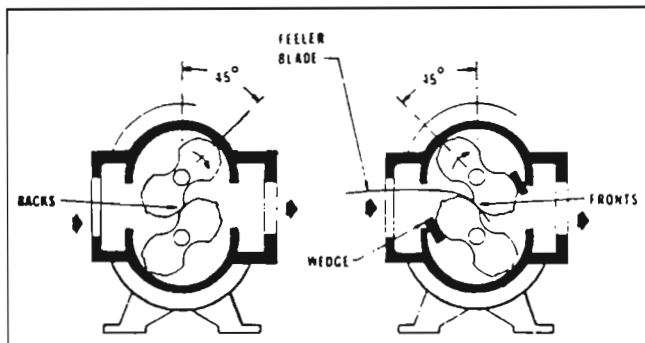

Figure 5 — Impeller Timing Viewed From Gear End
Item Numbers and their word descriptions from Figures 5 & 6. Also specify quantities wanted and the blower size and serial number from the nameplate.
3. GEAR REMOVAL: For this operation, the impellers should be wedged as shown in Figure 5. Back off gear clamping nuts (17) about 1/4". Use a puller of the type shown in Figure 10. Position it around the gear per Figure 9. As the puller set screw is torqued, the puller will have a tendency to turn and contact teeth of the other gear. To prevent this contact, hold the puller corner nut with a wrench while torquing the set screw. Once the gear is unseated, remove the puller. Remove gear nuts (17) and the gear. Repeat same procedure for the other gear. NOTE: Do not remove gear nuts (17) completely before the gears are unseated from the taper fits or damage/injury may result.
4. GEAR INSTALLATION: Place impellers in correct position as previously marked. Be sure shafts and gear bores are clean and free of scratches. Clean the shaft tapered fits. Place hardwood wedges as shown in Figure 5. Install drive gear (4) and gear nut (17) so match mark at tooth is at the line of engagement. Tighten the drive gear nut to the torque given in Table 5. Blower assembly must be fastened down for torquing operation.
5. Installing driven gear (4) - Insert a long, metal feeler gauge between the impellers' lobes at the fronts or backs as shown in Figure 5. Feeler gauge thickness to be a middle value from Table 6 for fronts and backs. Align the gear so the tooth match marks agree with the drive gear, then install nut (17). Tighten lightly with a small wrench, then check front and back clearances against Table 6 for each 45° position. Both fronts and backs should be about the same and within the specified range in Table 6. Adjust gear position, if necessary, then insert the corrected feeler gauge and wedges and use a torque wrench to tighten the gear nut to the torque specified in Table 5. Remove wedges and rotate the drive shaft by hand to make sure there are no gear tight spots or impeller contacts.